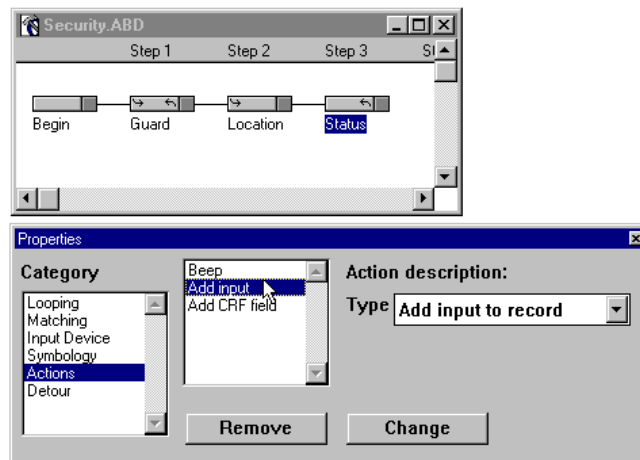

Figure 3-101 Actions Property - Select Add Input
k) Select **Add input** in the action list (Figure 3-101).